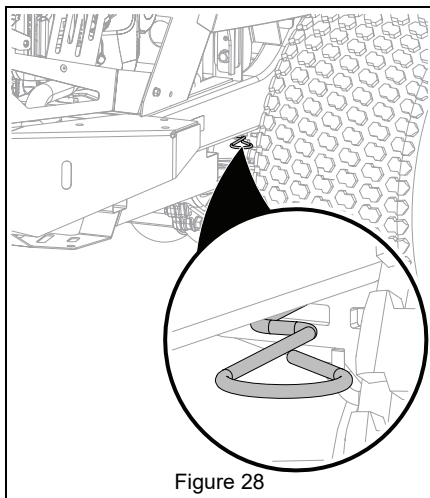

Figure 28
2. Pull both transaxle bypass levers out into bypass position. See Figure 28.